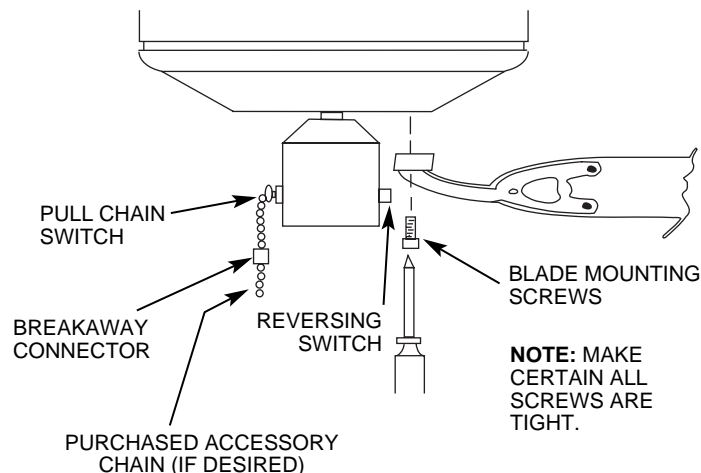

FIGURE 11
B. Switch operates in this sequence: "High," "Medium," "Low," "OFF." Pull chain slowly to operate. Also, release the chain slowly so as to prevent chain from flying up into blades, possibly resulting in damage to blades, or pull chain. The break-away connector is designed to separate from the chain at a pre-determined force. If this separation occurs, simply reinsert the connector. It can be reused again and again. See Figure 11.
C. Motor is electrically reversible. When first operating fan, determine direction of air flow. If you wish to change direction, switch fan off and allow to stop. Slide reversing switch to the opposite position and switch fan back on. See Figure 11.